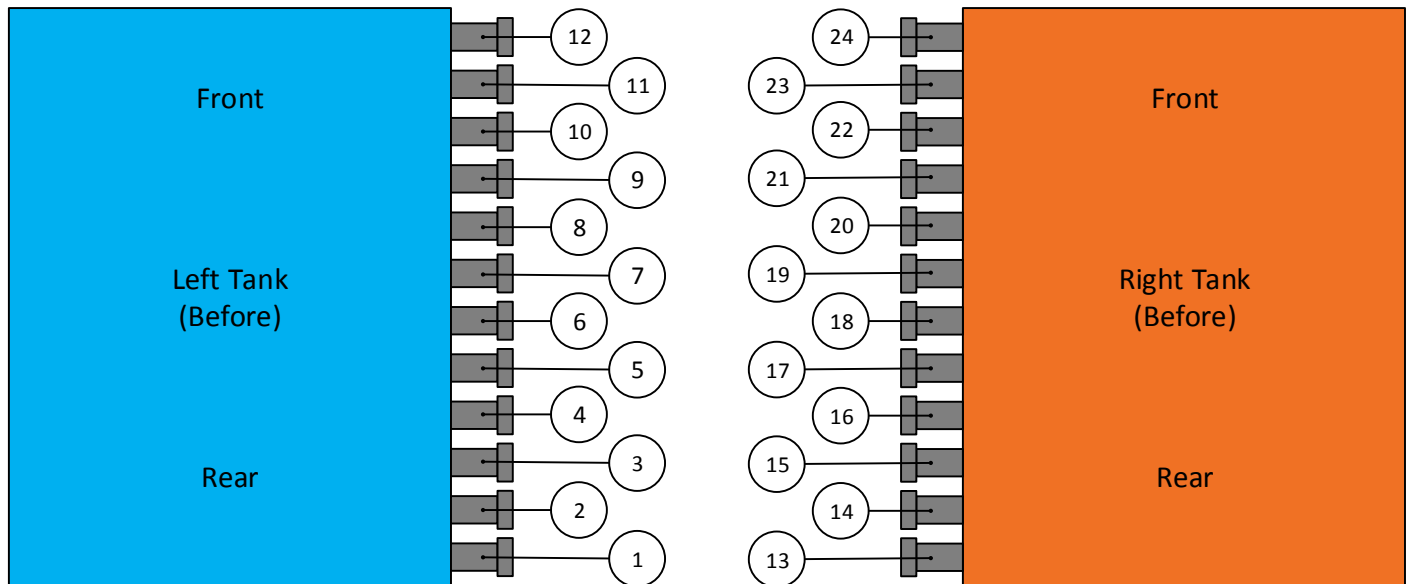

Figure 2a
Step 2: Due to the orientation of the bulk tank barbs and the design of the seed delivery routing, no extra seed delivery hoses will be needed. Figure 2a below is the factory barb numbers and the row that is supplied by each barb. Label each hose with the designated row number that it currently is supplying.